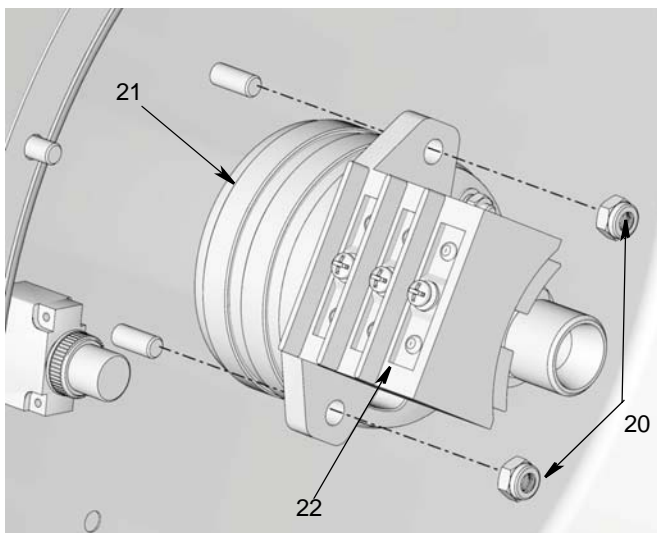

FIG. 20
- Disassemble two 10 mm hex nuts (20) holding slip ring brush bracket (22) to slip ring (21). Remove slip ring brush bracket. (FIG. 20)